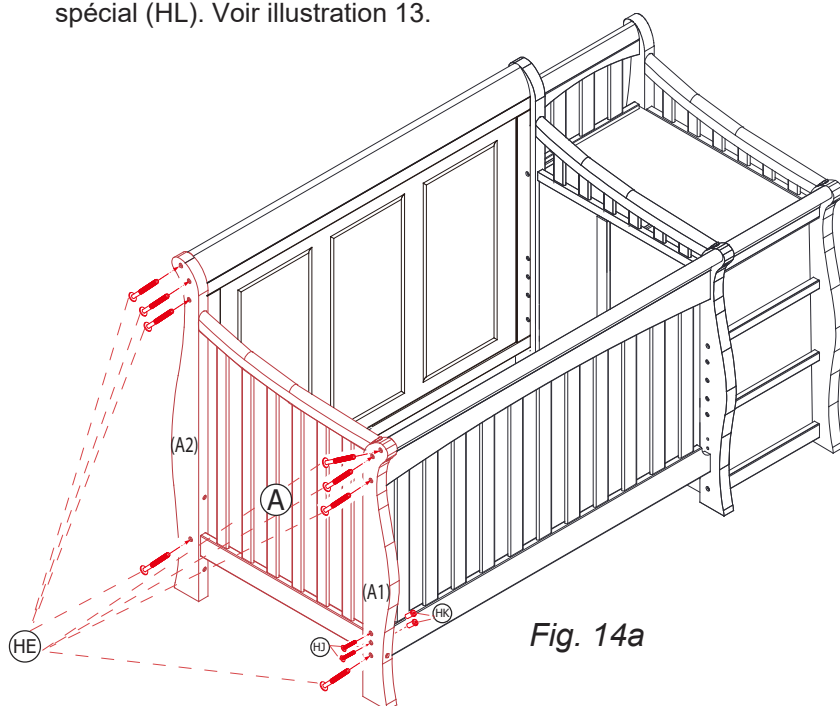

Fig. 14a
Then attach the Left Side Frame (A) with Posts to Crib using 8 Bolts(HE) as Fig.14a